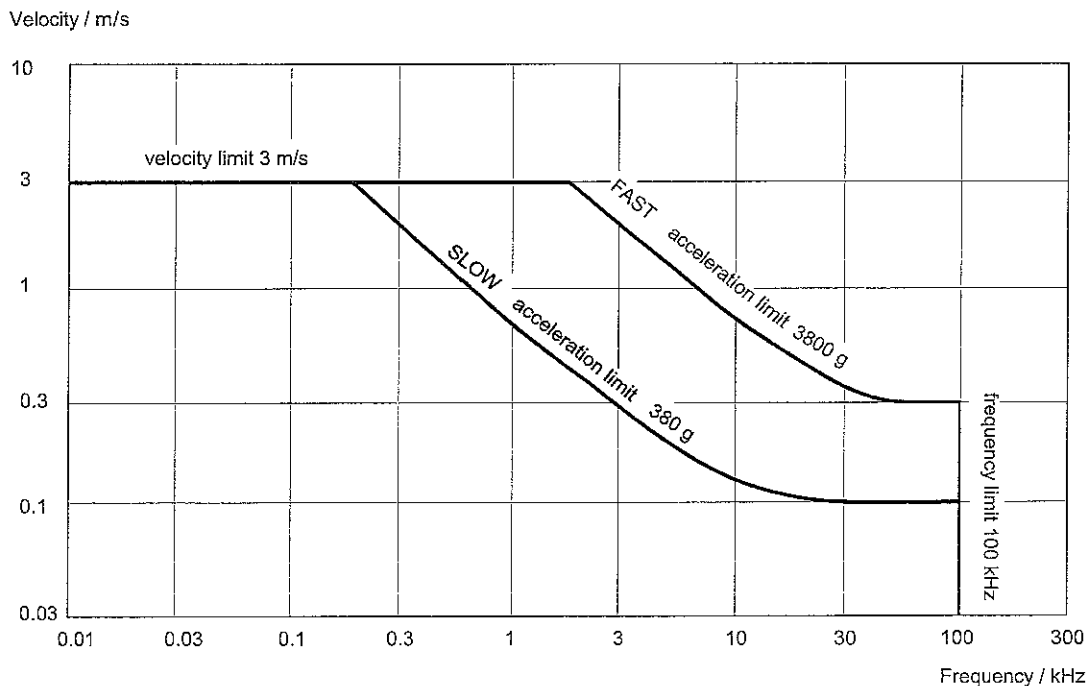

Figure 4.7: Operating ranges of the tracking filter
The tracking filter is used to improve the signal-to-noise ratio of the interferometer signal. This is particularly good for bridging short dropouts which occur due to the speckled nature of the light scattered back. The bridging capability is generally better with a high time constant SLOW, however, it may not be possible to follow highly dynamic signals any more. In this case, FAST or OFF have to be selected. The best setting therefore has to be determined from case to case or be estimated based on the range diagram in figure 4.7. The range diagram shows the dynamic limits for both settings of the tracking filter, plotted versus the frequency.
To set the tracking filter, the diagram in figure 4.7 can be summarized in the following general rules:
- Using the velocity decoder PLL-DC the tracking filter is particularly important. For technical reasons the PLL-DC is more sensitive to dropouts than the decoder OVD-04. Thus the tracking filter should be set to SLOW as long as the acceleration limit is not exceeded (refer to figure 4.7).